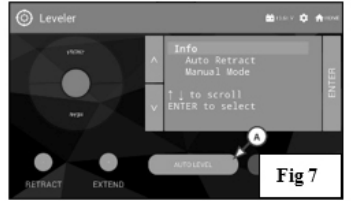

Fig 7
Leveler Operation: Select the LEVELING icon, the screen opens showing the Leveler Control screen (Fig 7). This screen will allow you to extend and retract the jacks and to auto level the RV. Press the AUTO LEVEL button (A) to begin leveling the RV.